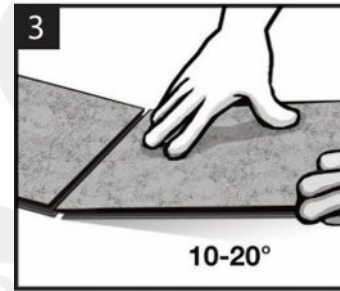

Figure 3
3. When laying the first row in a straight line, interlock the short ends by inserting the tongue into the grooves at an angle of approx. 10 to 20 degrees (Figure 3). Install each sequential plank on the short end